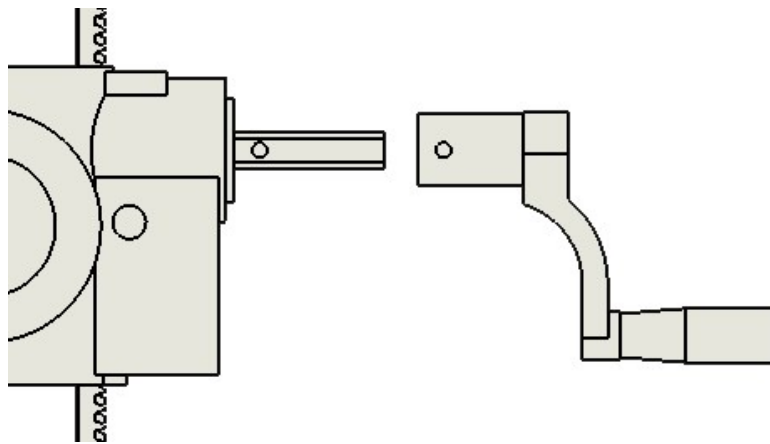

Figure 10
Step 11 Press, the lift handle to the gear shaft, and then push, pull, turn the lifting handle, let the lift handle hole aligned with the lifting gear holes, can see through from one end to the other end and put the spring pin, hit into the hole, make the outer end is flush with the lifting handle shaft. Figure 10